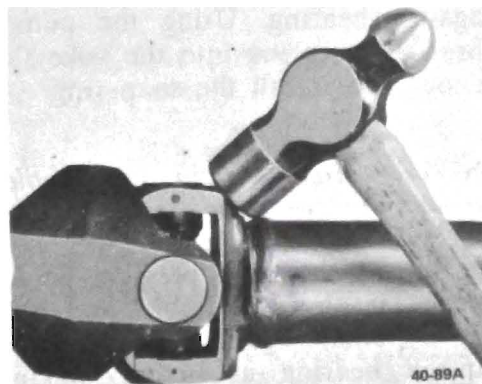

Figure 40-75 - Seating Snap Rings
5. Strike the yoke with a hammer to fully seat the snap rings against the yoke. Turn the spider to make certain that it is free. See Figure 40-75.
8. Strike the yoke firmly with a hammer to fully seat the snap rings against the yoke. See Figure 40-75.